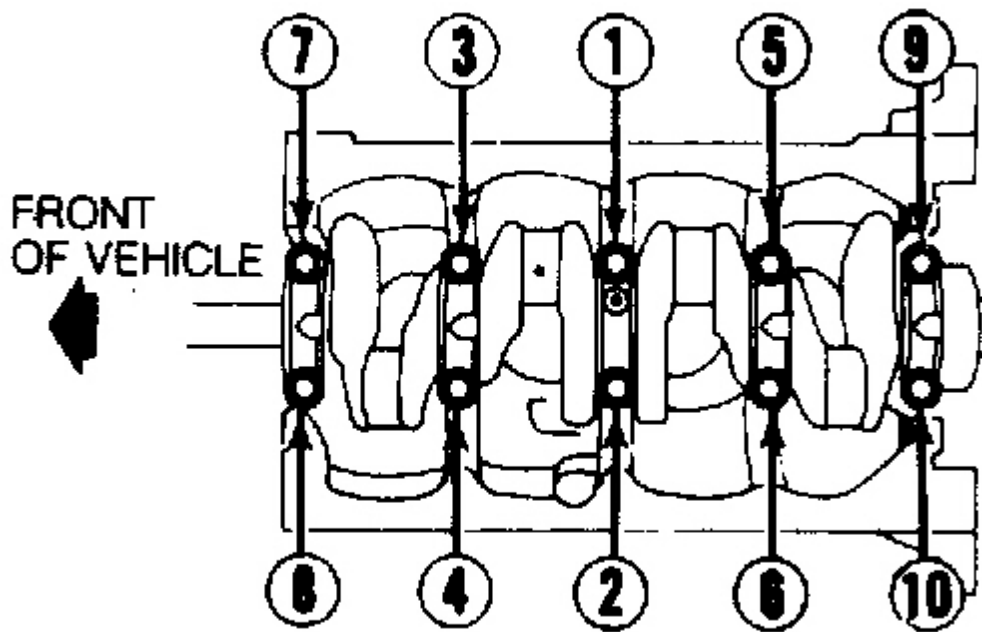

Fig. 7: Main Bearing Tightening Sequence
3. Measure bearing clearances using Plastigage method. Observe correct tightening sequence. See **Fig. 7** . If clearance exceeds specification, grind journals for undersize bearings.